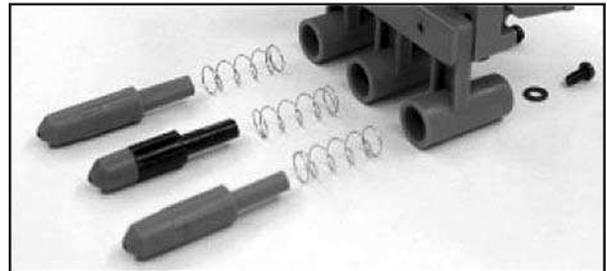

Figure 23. Marking Pen Disassembly
2. Remove the Marking Pen and the Spring from inside the Pen Mount. Refer to Figure 23.